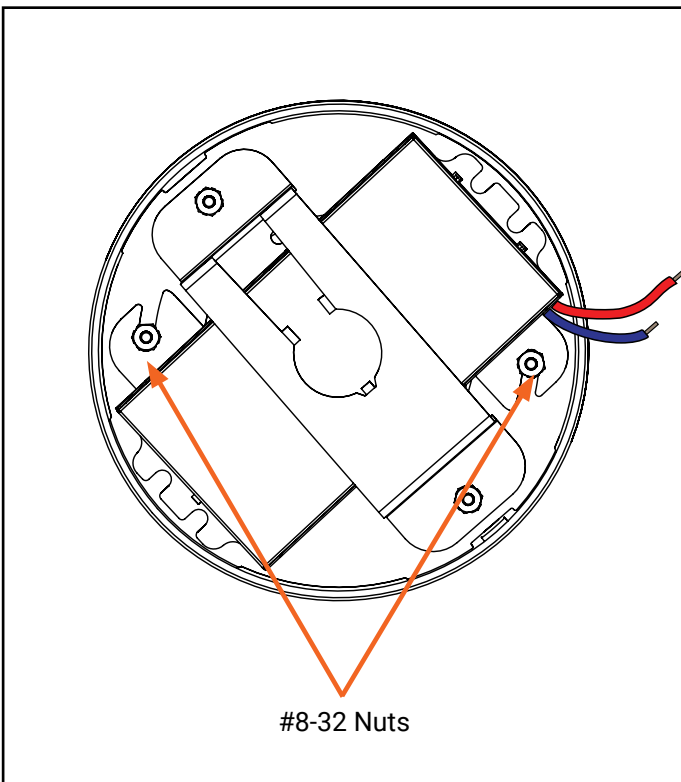

Figure 23
4. Loosen the two **#8-32 nuts (G)** from the **Canopy Plate (B)**. (Figure 23)